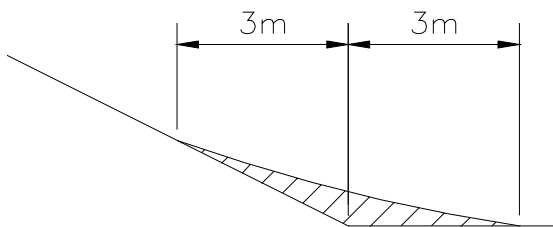

FIGURE 1
- The tops and toes of all cut slopes where the material is not solid rock should be rounded, both in plan and profile, and should match the adjacent existing conditions. A layer of earth overlying a rock cut also should be rounded. See Figures 1 & 2.